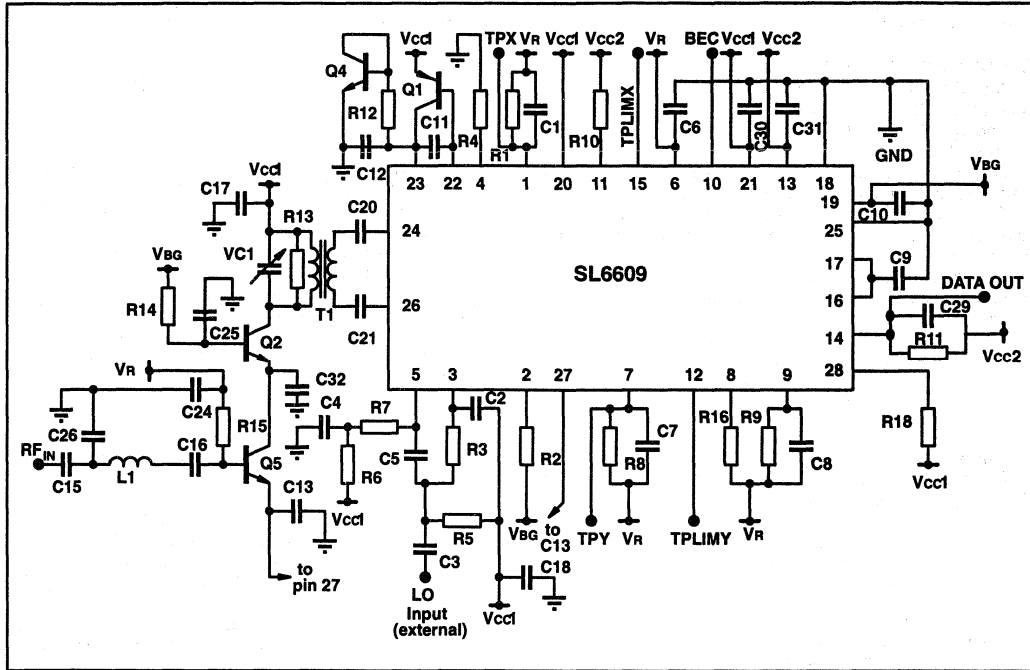

Fig. 2 Basic SL6609 Application circuit (282MHz receiver), showing RF amplifier with external rejected LO (no Audio AGC)
N.B. The following set up procedure was undertaken using the RF Amplifier specified in Fig. 2 and should only be used as guidance if alternative RF amplifiers are proposed.